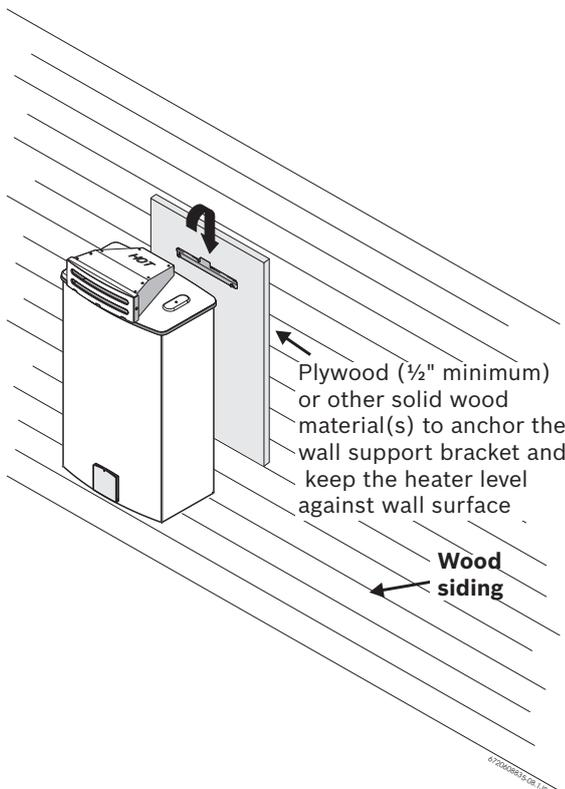

Fig. 8 Installation on wood siding
- ▶ The water heater is approved for installation directly on an outside wall. Secure the wall mounting bracket provided with the water heater to a wall surface. See Fig. 8.